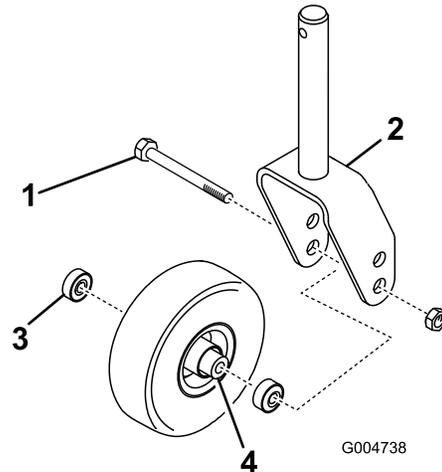
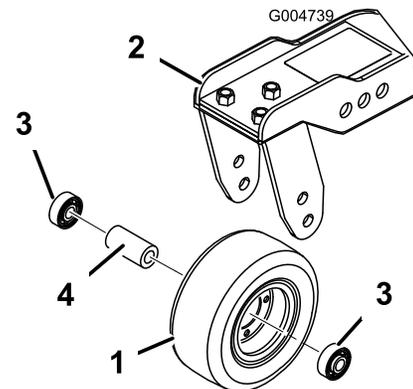

Figure 111
Figure 112
1. Remove the locknut from the bolt holding the caster-wheel assembly between the caster fork (Figure 111) or the caster-pivot arm (Figure 112).
2. Remove the bearing from the wheel hub and allow the bearing spacer to fall out (Figure 111 and Figure 112).